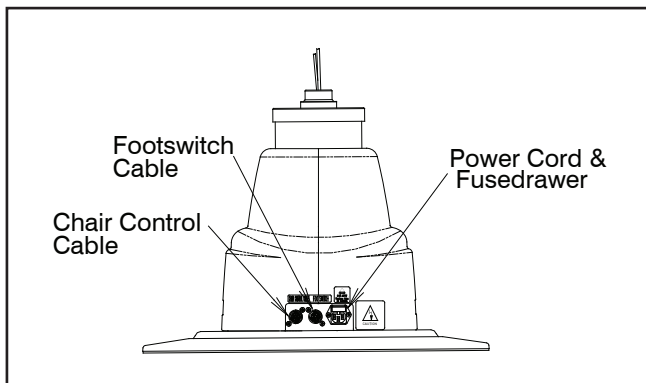

FIGURE 1
2.2.2.1. Locate the footswitch assembly, chair control cable, and the power cord assembly. Refer to figure 1 for receptacle location and attach all cables.